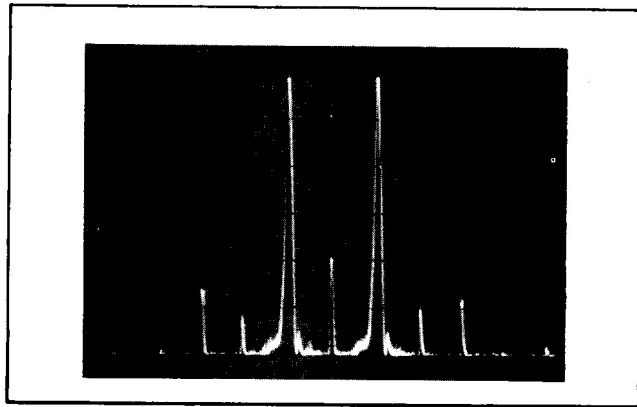

Figure 6. Balanced Modulator Output
20. Figure 6 shows the output of a typical HP Model 10534A Mixer when used as a balanced modulator, displayed on a HP Model 851/8552